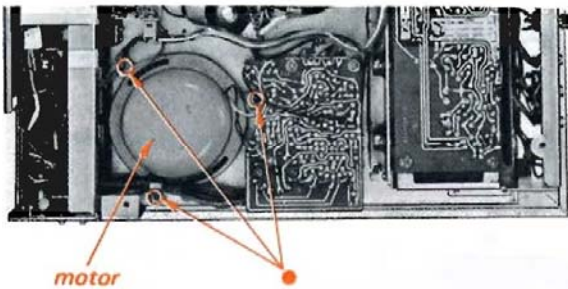

Fig. 8-5 Motor removal
- (1) Remove the drive belt on the motor pulley.
- (2) Unsolder the four motor leads at the servo amplifier circuit board.
- (3) Remove the three screws marked with ● in Fig. 8-5, and the motor can be removed completely from the chassis.